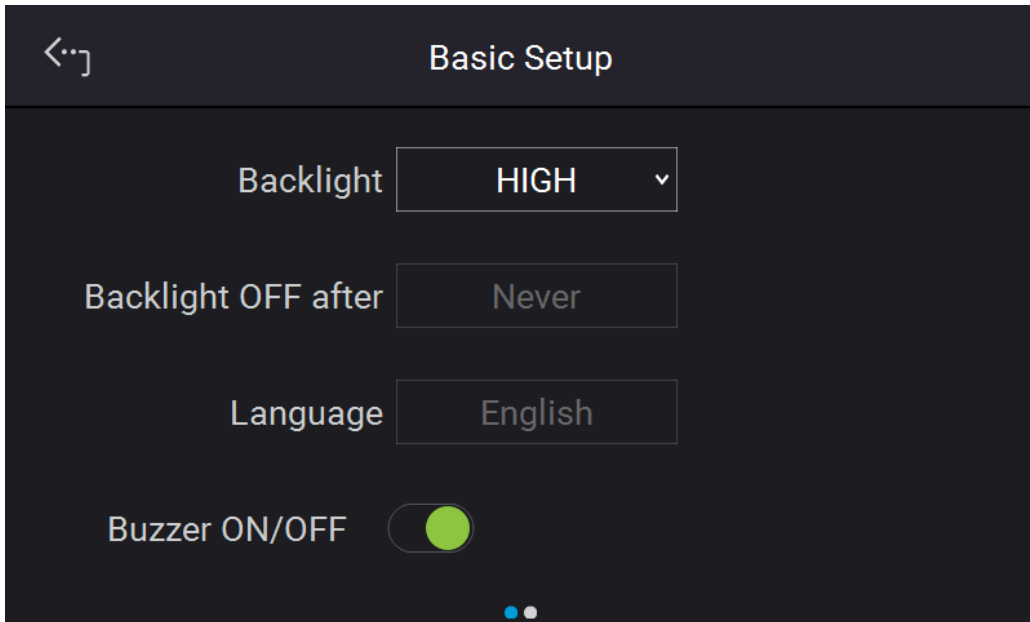
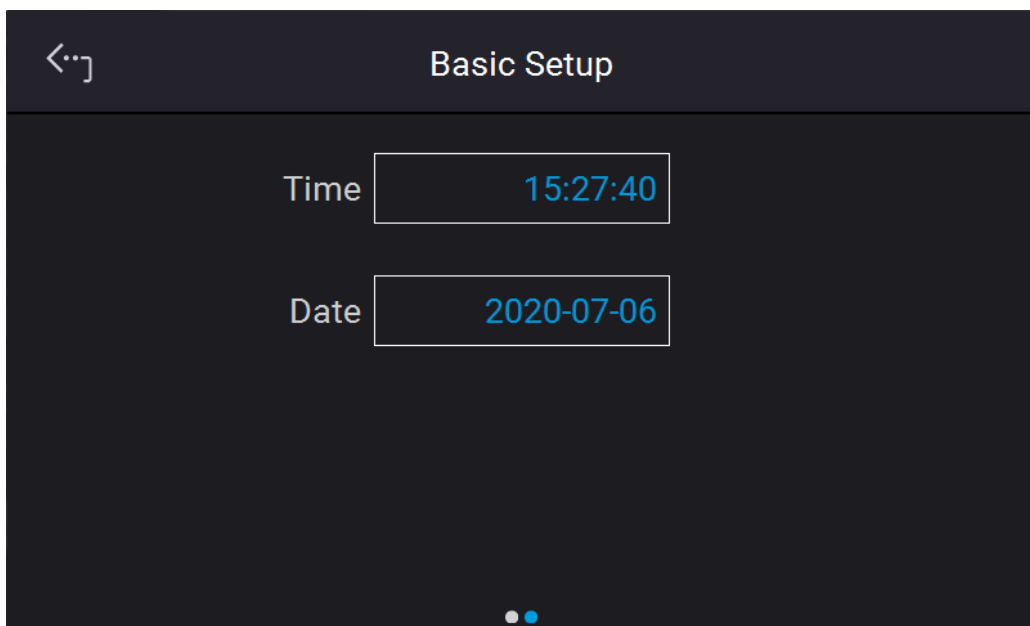

Figure 3-18
Figure 3-19
This function allows you to set the brightness of backlight, language, buzzer, time and date. In Menu page, tap “System Setup” and select “Basic Setting”, the screen will appear as Figure 3-18 or Figure 3-19 shows.
4. Swipe the “Basic Setup” page left to set “Time” and “Date” in the format of hh:mm:ss and yyyy-mm-dd as shown in Figure 3-19.